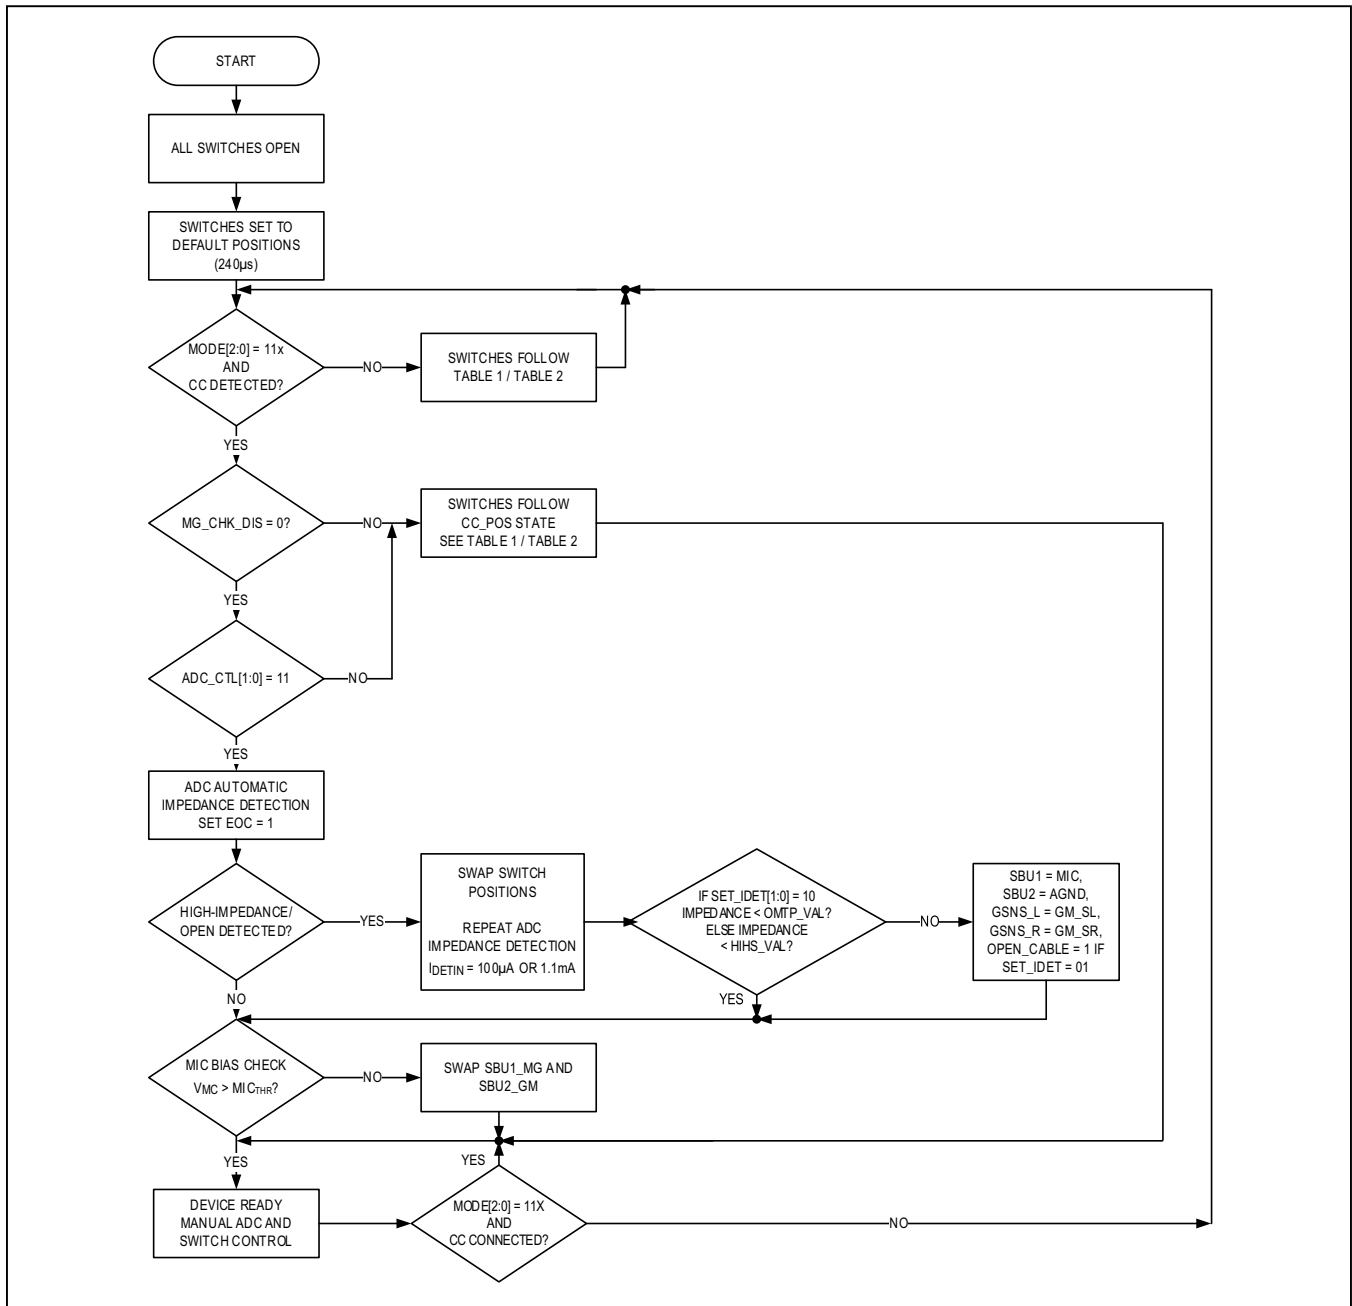

Figure 1. Startup State Machine (FSM)
* Controlled by the state machine. Refer to the state diagram of Figure 1.
*(1) When MG_CHK_DIS = 1 OR ADC_CTL ≠ 11, configuration valid when CC_POS = 0
*(2) When MG_CHK_DIS = 1 OR ADC_CTL ≠ 11, configuration valid when CC_POS = 1
*(1) CC_POS = 0
*(2) CC_POS = 1
*(3) When MG_CHK_DIS = 1 OR ADC_CTL ≠ 11, configuration valid when CC_POS = 0
*(4) When MG_CHK_DIS = 1 OR ADC_CTL ≠ 11, configuration valid when CC_POS = 1
supply current. When a device is disabled, the ADC_VAL register (0x01) and bits 0x02[7:6] and 0x02[3:0] are reset to 0. These bits provide information regarding the audio accessory impedance and microphone orientation. When EN is set to 1, the device runs through the state machine diagrammed in Figure 1.
The MAX20328/MAX20328A can perform an impedance detection to measure the impedance of a connected audio accessory or detect an open cable. This function uses a precision, 8-bit ADC to measure the voltage dropped across the left audio channel while the IDET current source is active. An impedance measurement triggers automatically when EN is set to 1 if ADC_CTL[1:0] = 11 and follows the state machine in Figure 1. Changing MODE[2:0] to 1xx while the device is enabled also trig-